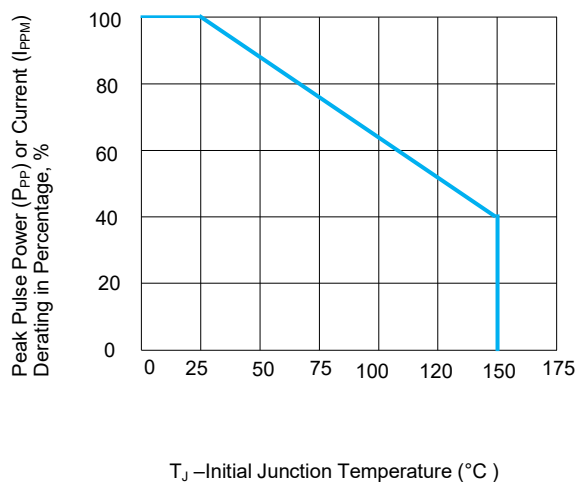
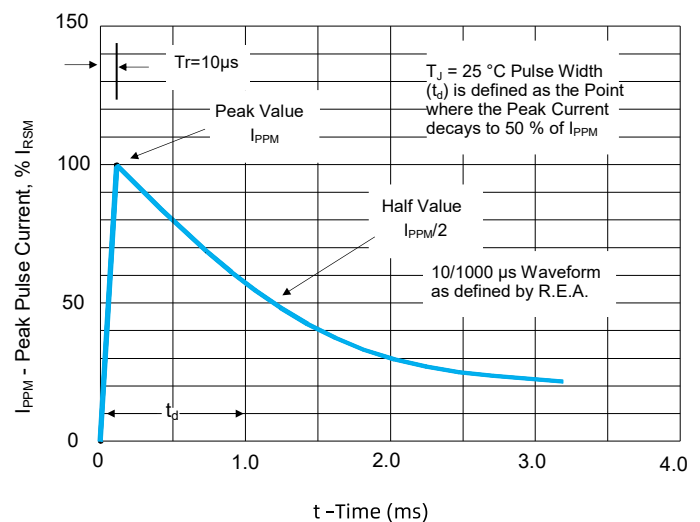

FIGURE 3 Peak Pulse Power Derating Curve
FIGURE 4 Pulse Waveform
1. Non-repetitive current pulse, per Fig. 4 and derated above T_J (initial)=25 °C per Fig. 3.